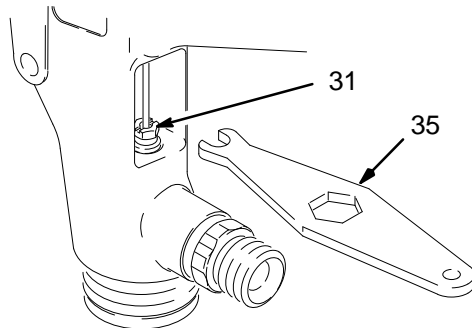
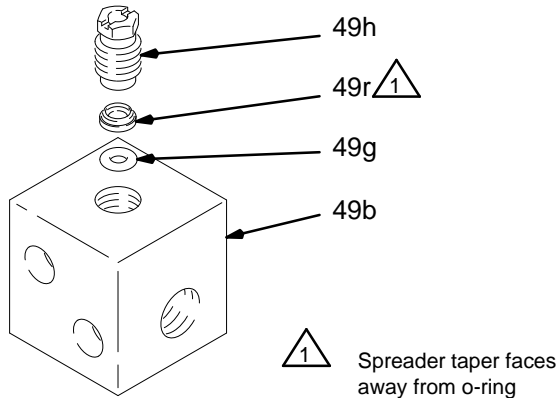

Fig. 39 02758
Fig. 41 02781A
- Tighten the packing adjustment nut (31) with the gun wrench (35) until you can feel a slight drag on the fluid needle. See Fig. 39. Do not over-tighten the screw as this may bind the needle movement.
- b. Install the o-ring (49g), spreader (49r), and activator packing nut (49h) into the housing (49b), orientated as shown in Fig. 41. Start the packing nut threads, then install the needle (49d). Tighten the packing nut to 20 in-lbs (2.3 N•m).
18. Secure the activator valve (49) to the plate (2) with the two screws (53). Tighten the screws to 10 to 15 in-lbs (1.1 to 1.7 N•m).
19. Place the o-ring (49e) in the groove on the plate (2). Lightly lubricate the o-ring, and slide the plate, with the activator valve assembly, onto the top of the gun body.
20. Install the gun and activator triggers (3 and 48). Tighten the screw (5) to 25 to 35 in-lbs (2.8 to 4.0 N•m).
21. Trigger the gun to test the fluid needle (21) movement. If the fluid needle does not return after the trigger (3) is released or returns slowly, loosen the packing adjustment nut (31) until the needle returns freely. See Fig. 39. Repeat this process to test the activator needle (49d).